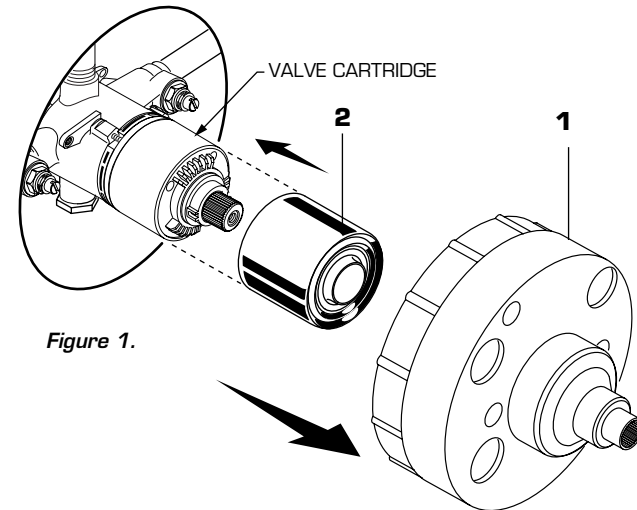

Figure 1.
- When finished tiling the wall, remove PLASTER GUARD (1).
- **Figure 1.** Push CAP (2) over VALVE CARTRIDGE until seated against stop.